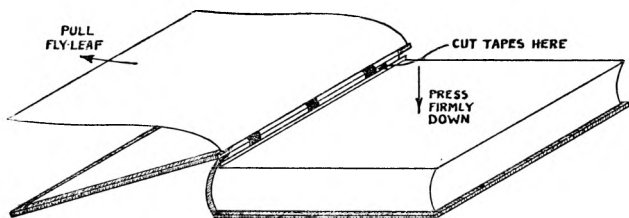

Fig. 33
1. Open the front cover and turn back the front flyleaf. Press firmly on the body of the book and pull back the first endpaper flyleaf, in the direction shown by the arrow in fig. 33, until the mull and the "slips", i.e., the tapes or cords, are visible at the hinge.
10. Close the first section, grip it firmly with the left hand and pull it gently away from the book, taking great care to avoid tearing the paper at the back of the section. Pull in the direction shown by the arrow in fig. 33, and press down firmly with the right hand on the body of the book.